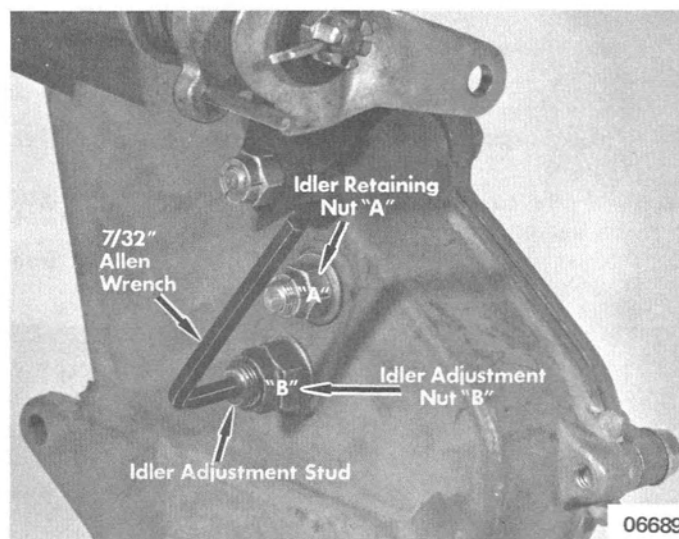

Figure 2. Chain Tension Adjustment
1. Loosen idler retaining nut "A" and idler adjustment nut "B" on inside of chaincase. (Figure 2) DO NOT remove